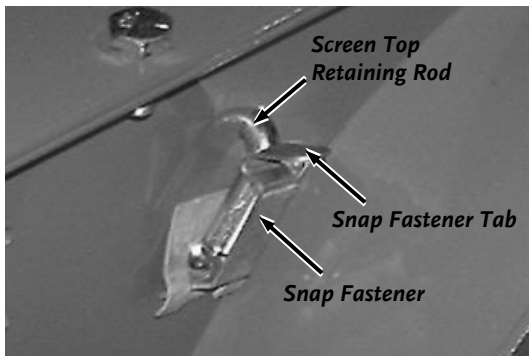

Figure 12
2. Remove the Screen Top Retaining Rod (**Figure 12**) by first releasing the Snap Fastener by bending the Tab down.